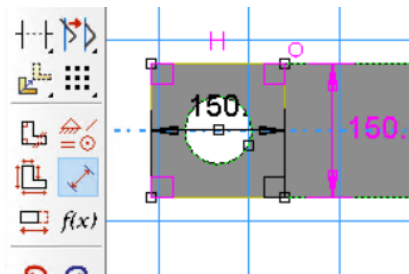

Figure 3-11 – Sketch rectangular partition face around the hole.
9. Draw a rectangle around the hole and ensure that the dimensions are **150 mm x 150 mm** by using the constraint tool (). See Figure 3-11.